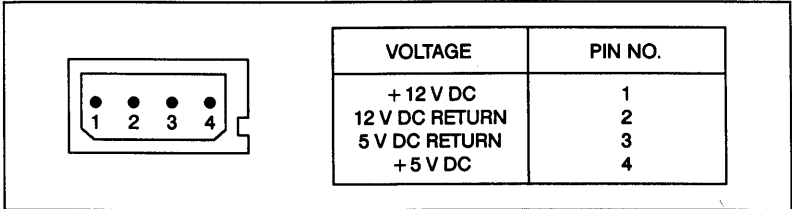

Figure 1-9. Power Connector and Pin Assignments
- e. The SQ555 has a 4 pin DC power connector mounted on the PCB. The pins are numbered as shown. (Figure 1-9.). The recommended mating connector is AMP P/N 1-480424-0 utilizing AMP pins P/N 350078-4.